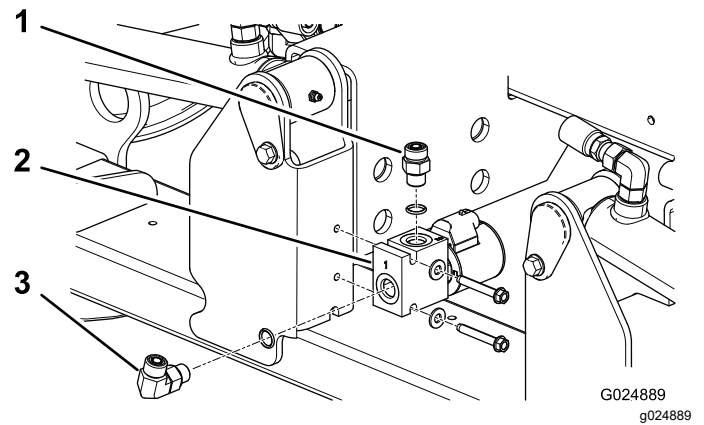

Figure 6
2. Mount the left deck-lock manifold to the frame tube with 2 self tapping screws (1/4 x 1-3/4 inch). Position the manifold as shown in Figure 6.
3. Install the straight hydraulic fitting into the top of the manifold (Figure 6).
4. Install the 90 degree hydraulic fitting into the end of the manifold (Figure 6).